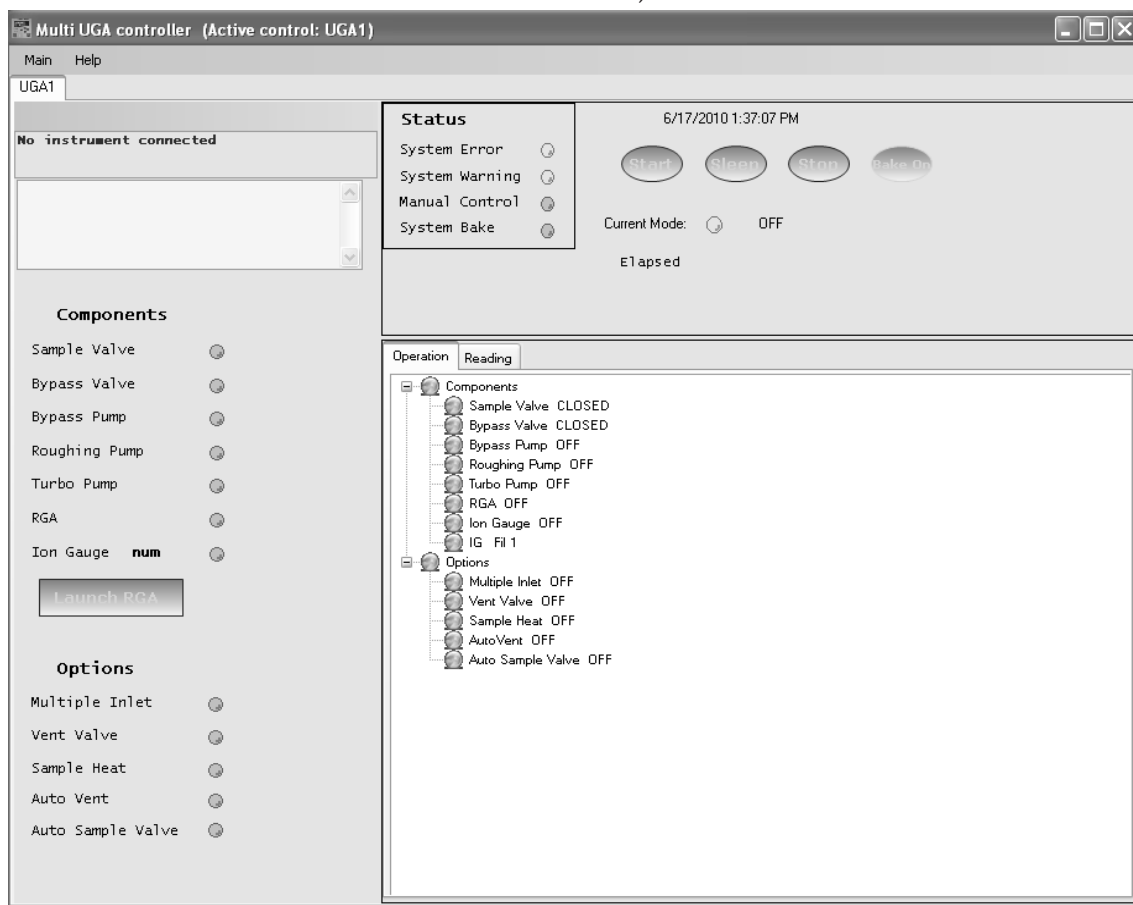

Fig. 2-3 Screenshot of the initial window of UGA control software.
A full featured software application included with the instrument provides an intuitive graphical user interface to the controls (See figure 2-3). All pumps, valves and heaters can be controlled from within the software. Every operation that takes place (valve open or close, pumps turned on or off, heaters activated, etc.) is logged as a time stamped "event" by the software. The event log is stored as a file on the PC hard drive. This log can be very useful for troubleshooting: if a user finds the UGA's interlocks activated while he was away, the event log will show what gauge registered an overpressure and when. This allows the user to track exactly where a problem began instead of guessing what went wrong. This can save hours of time in debugging a vacuum process.
4. Select or double click 'UGAControlApp.exe'. You should see the screen below. (Fig. 2-3) If the window is blank, click 'Main' and select 'New UGA'. (Refer to the Quick Start of this manual.)